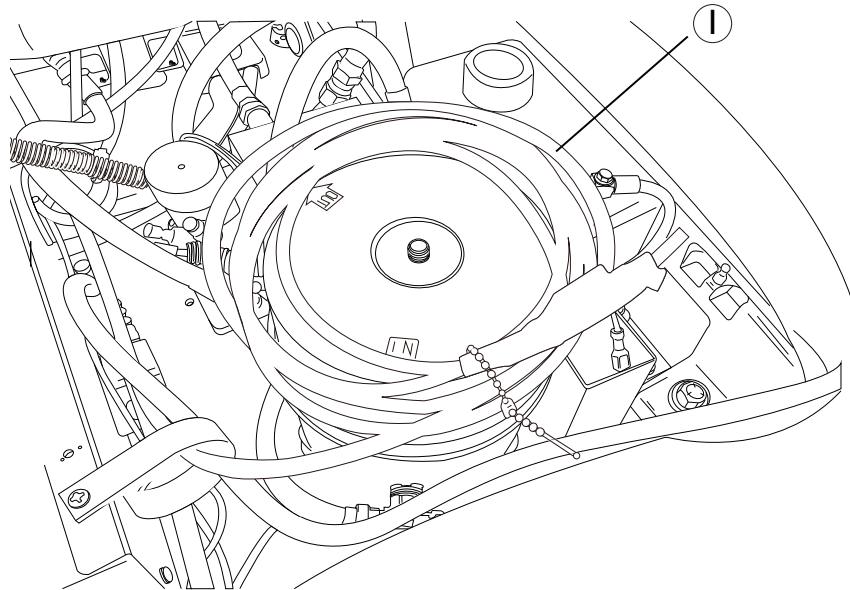

Figure 1 AirSoothe Tubing Coil
1. Locate the coiled yellow 1/8" ID Tubing (Figure 1, item 1) in the base of the chair.